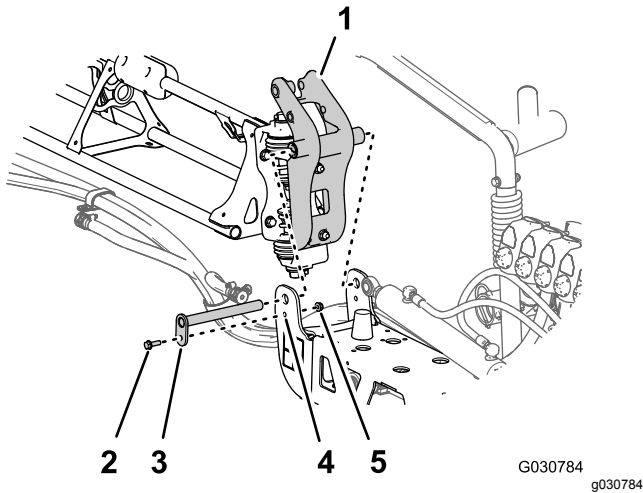

Figure 135
- Align the busings in the pivot fitting with the holes in the flanges of the pivot bracket at the end of the center boom section (Figure 135).